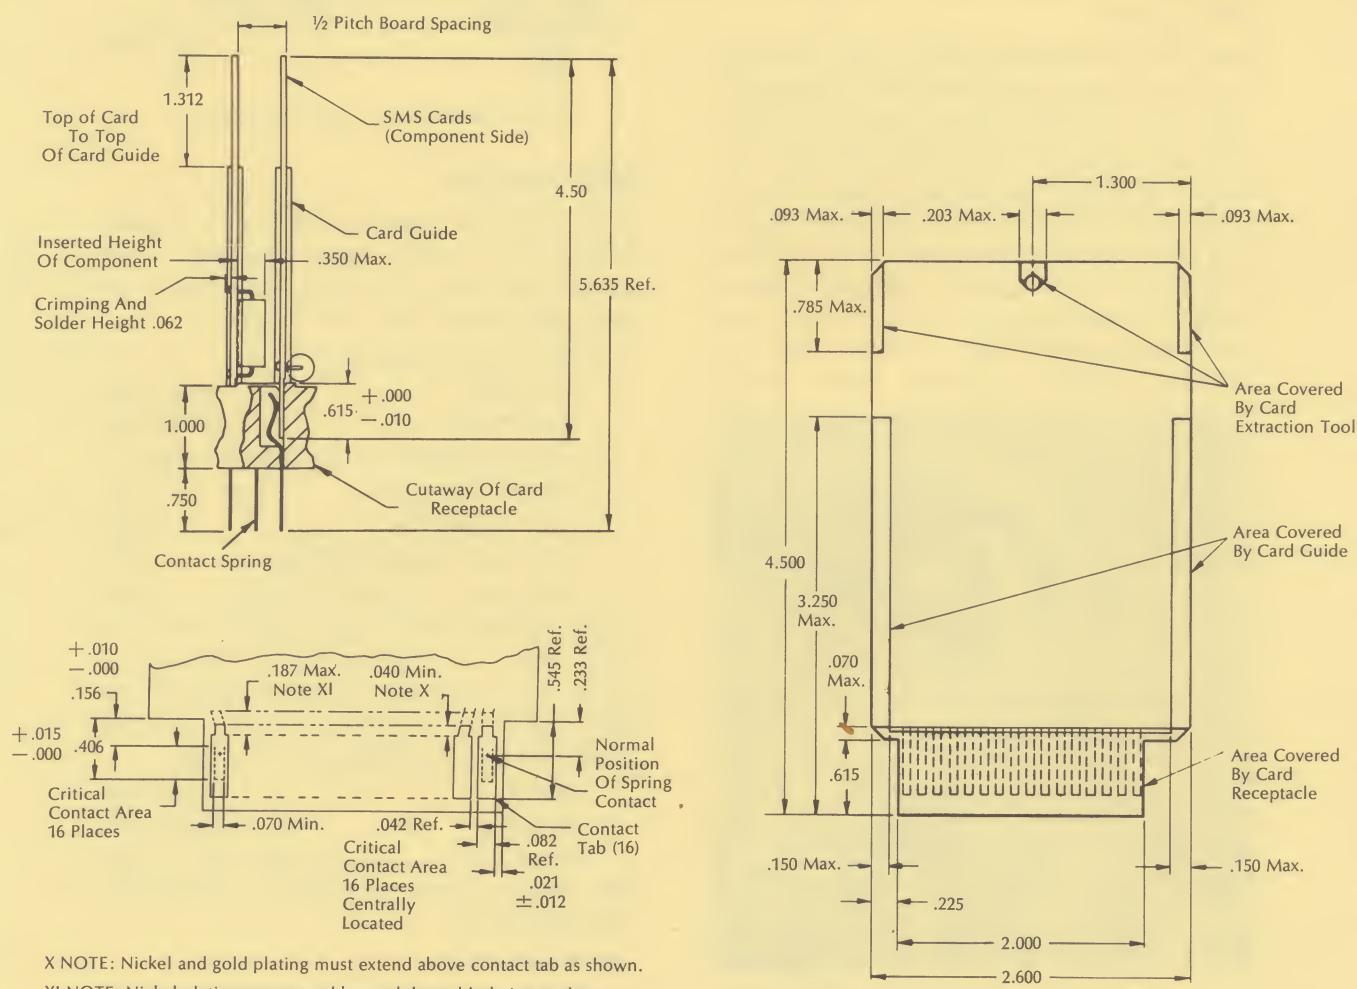

Figure 4: Single SMS Card and Card Socket Parameters (Card socket pin dimensions: .023 x .062)
**Blank Printed Circuit Cards**—SMS cards are fabricated from an epoxy paper laminate to rigid IBM standards which minimize warping and deformation in extended field use. Detailed parameters are shown under "Specifications". All card contact tabs are gold plated. The pitch center for inserted cards is shown in Figure 4. The inserted height of components on the component side of each card must not exceed 0.350 inches, otherwise shorting between cards may result. If this